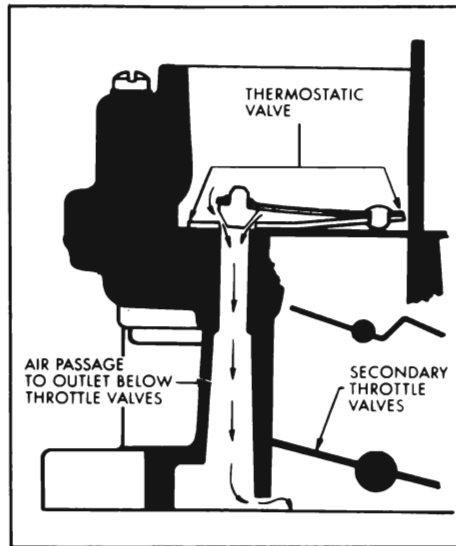

Figure 3-66—Thermostatic Valve Assembly
To compensate for loss of engine RPM while idling under very hot operating conditions, a thermostatic valve assembly is installed in the web between the right and left secondary venturi. When the temperature rises beyond a certain point, the calibrated thermostatic spring opens the valve. This allows additional air to flow through a special passage to an outlet below the secondary throttle valves. At normal operating temperatures, the valve should be closed. The thermostatic valve cannot be adjusted or repaired; therefore, a faulty valve must be replaced. See Figure 3-66.
11. Remove thermostatic valve and gasket. See Figure 3-66.
3. Install thermostatic valve using new gasket. See Figure 3-66.